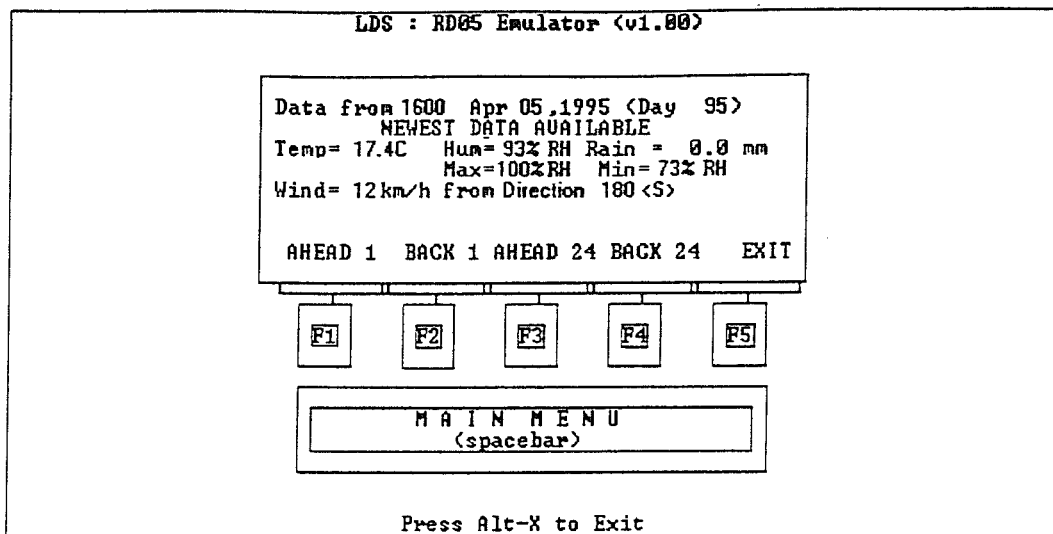

Figure 7-7
1. From the main menu, select "C: Hourly Data" by pressing the F3 Function key on your computer keyboard. You will be presented with the data from the most recently stored hour (Figure 7-7, next page). This gives you the temperature and humidity at the stated hour, the rainfall since the previous hour and the ten minute averages of the wind speed and direction. The wind readings are the average of the ten minutes before the hour, i.e., 15:50 to 16:00 for a 16:00 storage.